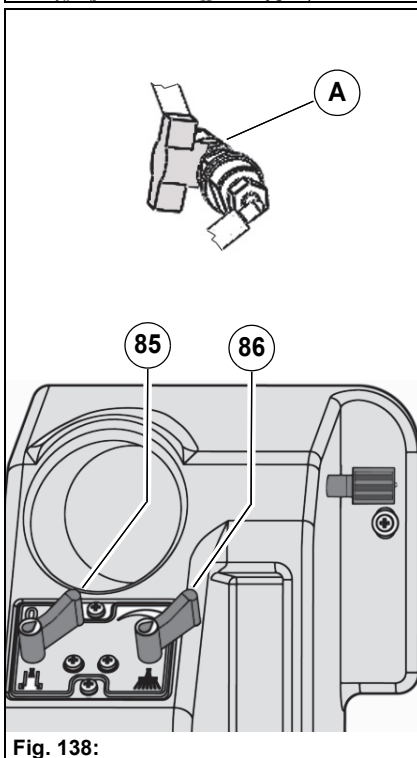

Fig. 138:
- Fresh water can be supplied between the rotating brushes by a fresh water nozzle with the lever **Fig. 138-A** of the sweeping unit.